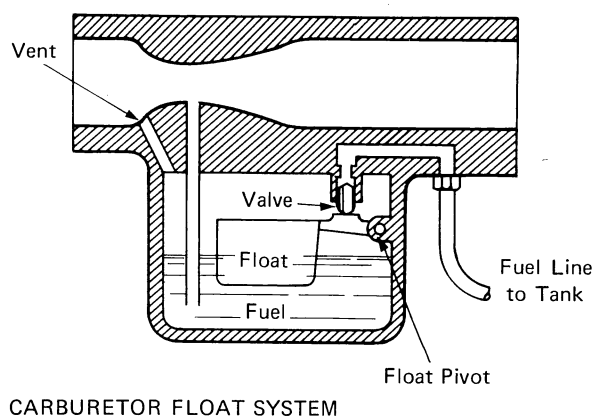

Fig. 15-6 Carburetor float system
**Float Bowl System.** The float bowl system provides a constant level reservoir from which the other carburetor circuits can draw fuel. Usually the float chamber is a simple metal bowl affixed to the bottom of the carburetor. It contains a hollow float that opens and closes a needle valve, depending on the level of fuel in the bowl itself (Fig. 15-6). The level of the fuel must be correct